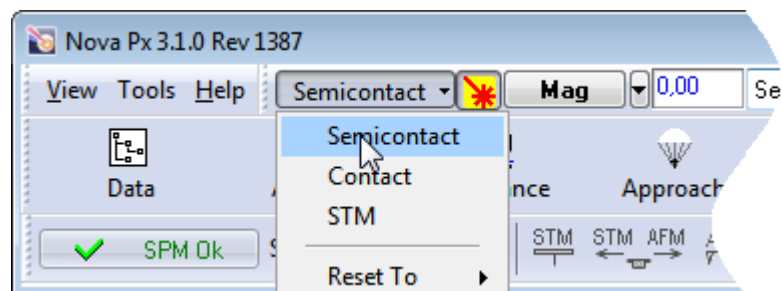

Fig. 12-36. Selecting the controller configuration
1. In the controller configuration drop-down list of the Nova PX program, select **Semiconduct** (Fig. 12-36).